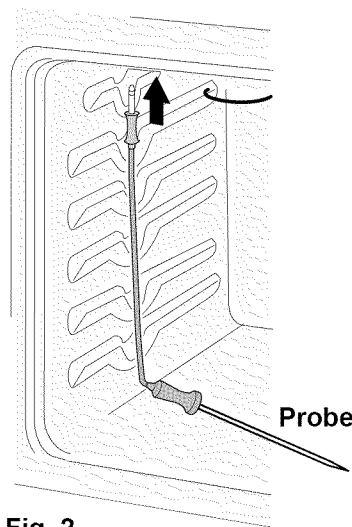

Fig. 2
2. Plug the probe COMPLETELY into the probe receptacle inside the oven -Fig. 2- and close the oven door.